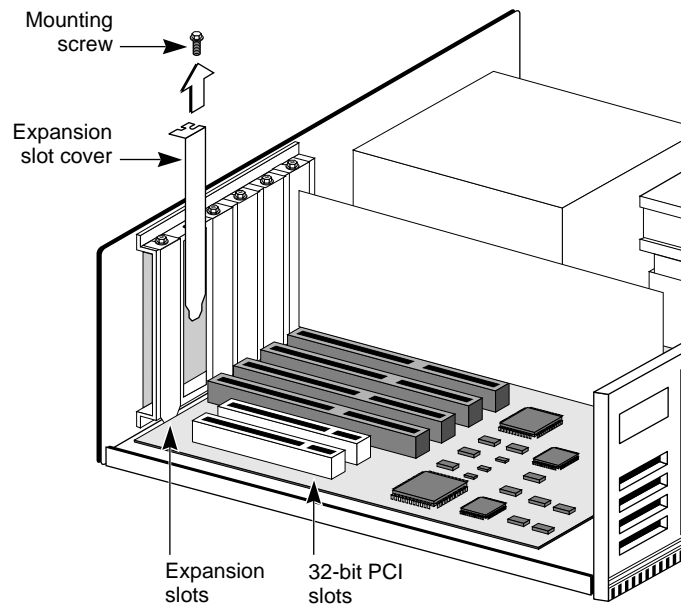

Figure 2-1 Removing the Expansion Slot Cover
- 7 Remove the metal expansion slot cover from the computer chassis, as shown in Figure 2-1.